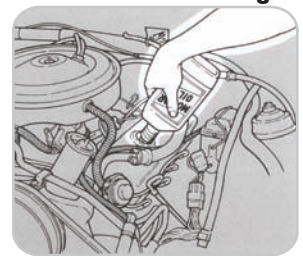

Fig 6
- Ensure the engine is level and fill the crankcase with new oil to the dipstick "full" mark or to engine manufacturer's specifications (Fig 6)